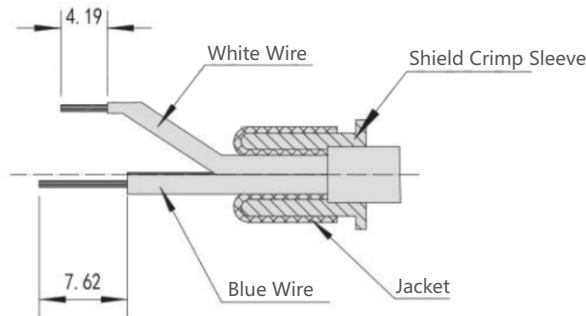

Figure 3.2
②As shown in Figure 3.2, fit the shield crimp sleeve onto the cable jacket, place the shield layer over the shield crimp sleeve, and strip the internal wires as shown (you can cut off the filler near the shield layer).